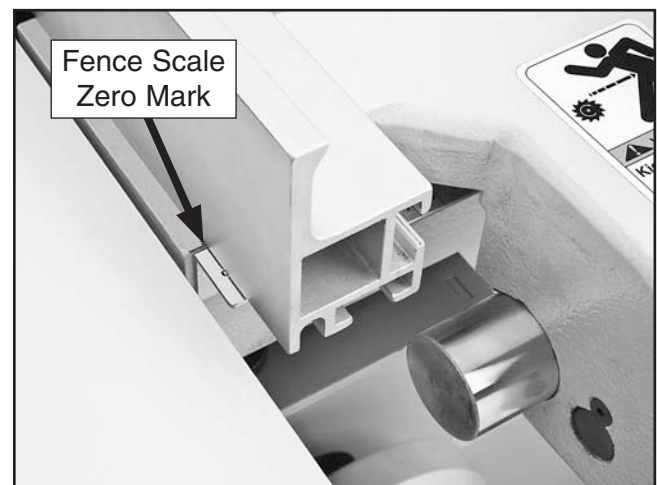

Figure 40. Rip fence scale zero mark even with the rip fence face.
46. Move the rip fence up against the saw blade, then position the rip fence scale so that the zero mark is even with face of the rip fence, as shown in **Figure 40**.